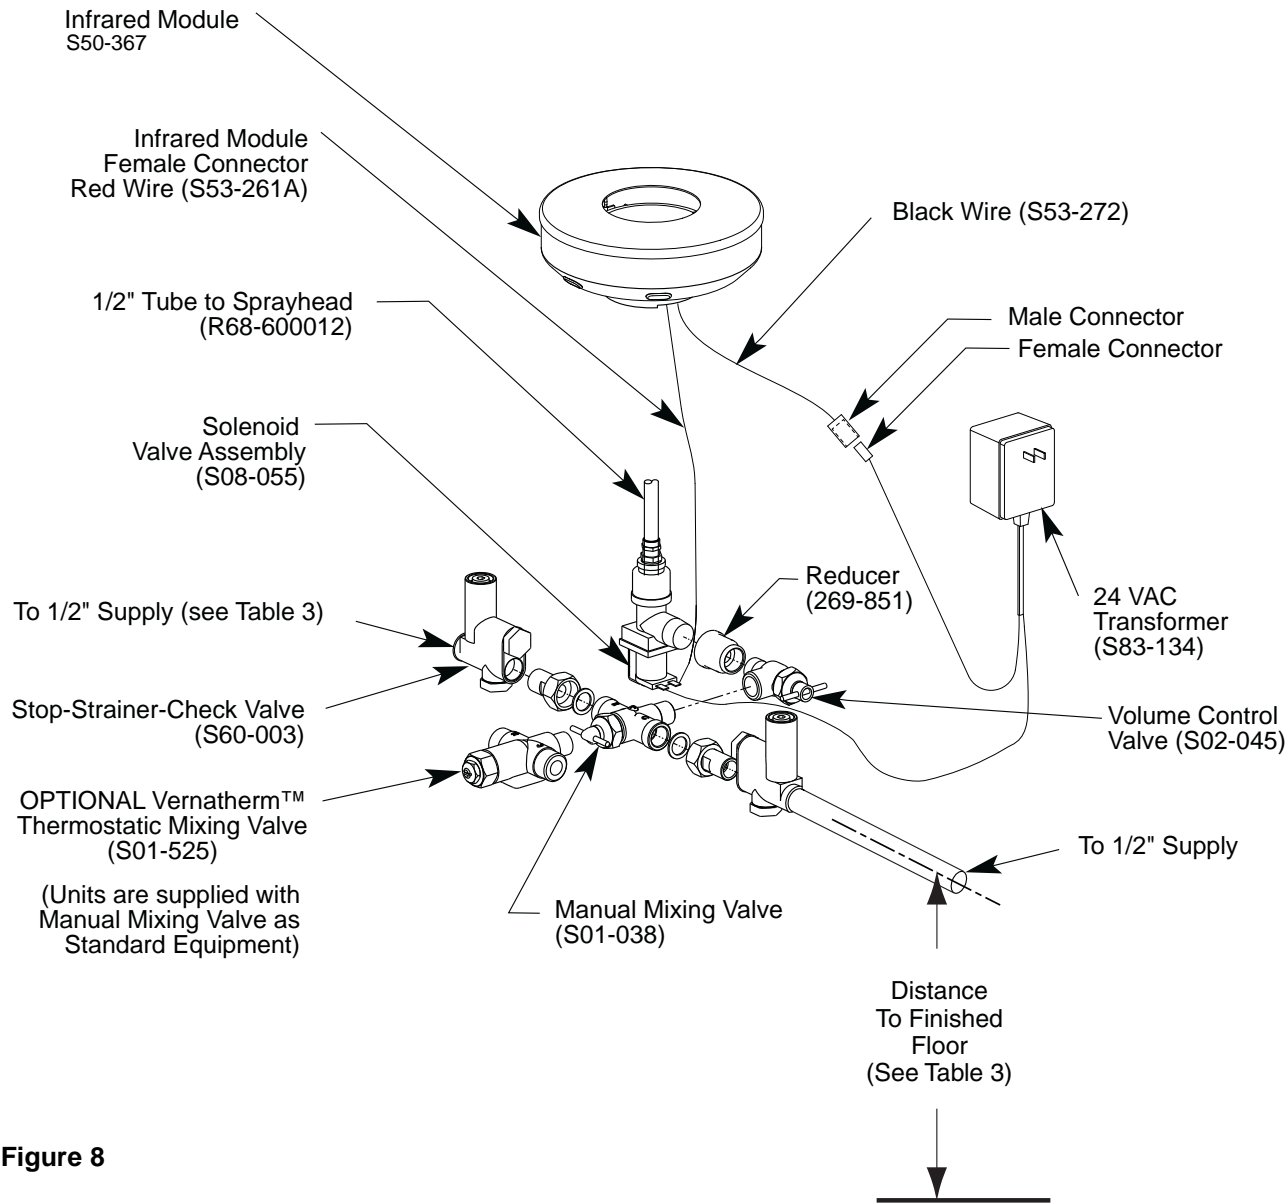

Figure 8
(See Figure 8 on page 16 for valving assembly)
3. Using suitable fittings, install the complete valving assembly to the supplies as shown in Figure 8 at the approximate height indicated in Table 3.
1. Attach infrared female connector (red wire) from infrared module to solenoid as shown in Figure 8.
1. LED not illuminated — no power is getting to the sensor. Check for power at the 110 VAC wall outlet and from the wires from the 24 VAC transformer. If there is 110 VAC power at the wall outlet, but no power from the transformer, touching the leads from the transformer while plugged in or a power surge may have burned out the transformer. Add surge protection at the outlet if a power surge is suspected and replace the transformer. If 24 VAC power is being supplied from the transformer, check for loose wire connections and check connections against the diagram (Figure 8) on page 17.
1. Disconnect the wires from the IR module to the transformer and solenoid (refer to Figure 8 on page 17 for wiring connections).